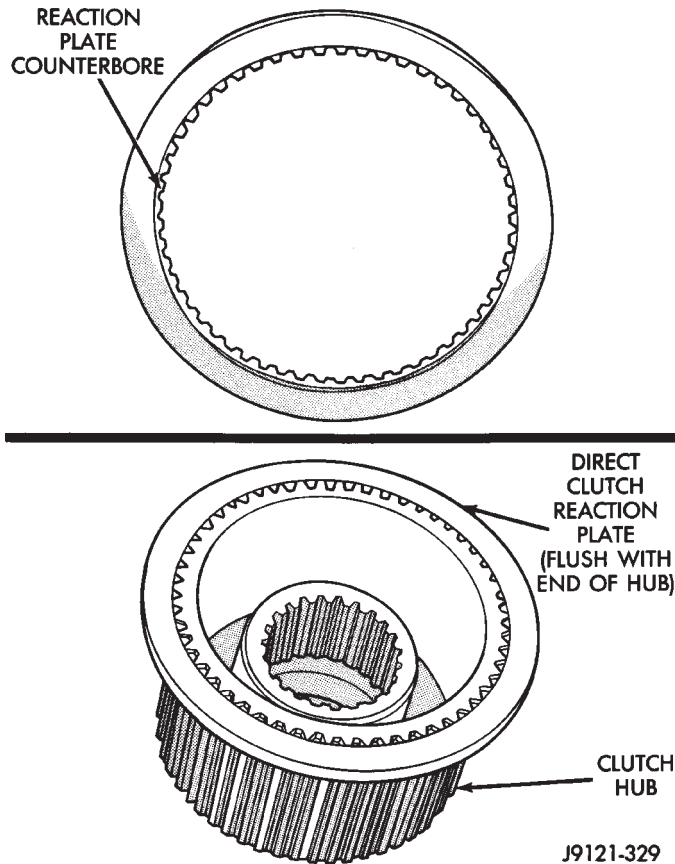

Fig. 339 Correct Position Of Direct Clutch Reaction Plate
(20) Install direct clutch reaction plate on clutch hub. **One side of reaction plate is counterbored. Be sure this side faces rearward. Splines at rear of hub are raised slightly and counterbore in plate fits over these splines. Plate should be flush with this end of hub (Fig. 339).**
(21) Install remainder of direct clutch components as follows: